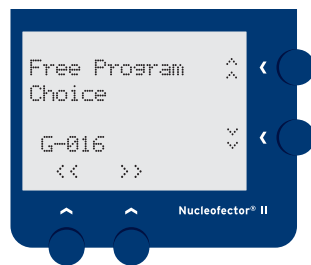

Fig. 3.
2. Attach the power cord to the receptacle on the rear side of the Nucleofector II (11) and plug it into an appropriate electrical outlet. The device will automatically be in the stand-by mode. Turn on the device by pressing the orange power button in the upper left corner of the front panel (1). The device performs a self test accompanied by a short intro in the front graphic display (2). After powering up, the display shows the main menu "Free Program Choice" (Fig. 3.). The start mode can be changed to the last program used as described in chapter 2.8.5.
The Nucleofector II Device offers two separate ways for program selection. Programs can either be chosen by direct selection of the program code, e.g. A-023, in the “Free Program Choice” mode (Fig. 3), which is comparable to program selection in Nucleofector I. As a convenient alternative, programs can also be selected by cell type code using the “Cell Type List” (Fig. 4). This list is divided in three consecutive sections:
1. Turn on the Nucleofector by using the power button (1). Nucleofector II Device starts in the “Free Program Choice” mode (Fig. 3). If it does not start in the “Free Program Choice” press the functional button “menu” (5) repeatedly until “Go to Free Program Choice” appears and confirm this pressing the functional button “go” (6).
1. Turn on the Nucleofector by using the power button (1). If the Nucleofector II Device starts in the “Free Program Choice” mode (Fig. 3), exit this mode by pressing the “X” button (7). Press the functional button “menu” (5) several times until “Go to Cell Type List” appears and confirm this choice by pressing the functional button “go” (6).
1. Turn on the Nucleofector by using the power button (1). If the Nucleofector II Device starts in the “Free Program Choice” mode (Fig. 3), exit this mode by pressing the “X” button (7).